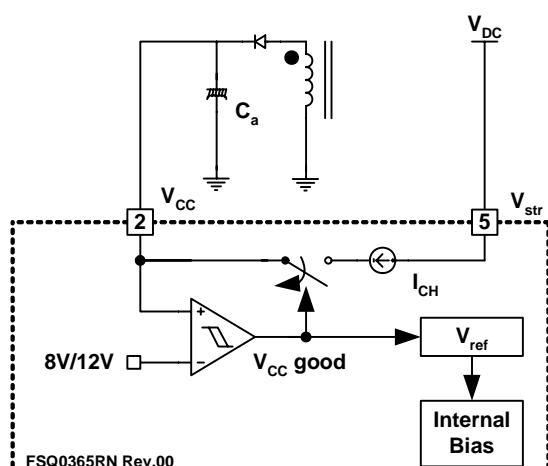

Figure 20. Start-up Circuit
1. Startup: At startup, an internal high-voltage current source supplies the internal bias and charges the external capacitor (C_a) connected to the V_{CC} pin, as illustrated in Figure 20. When V_{CC} reaches 12V, the FPS begins switching and the internal high-voltage current source is disabled. The FPS continues its normal switching operation and the power is supplied from the auxiliary transformer winding unless V_{CC} goes below the stop voltage of 8V.